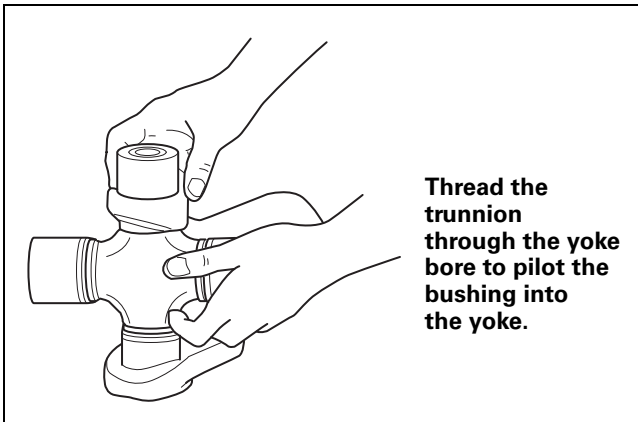

Figure 8.27
- Position the second bushing onto the trunnion by threading the cross through the yoke bore as shown. Figure 8.27.